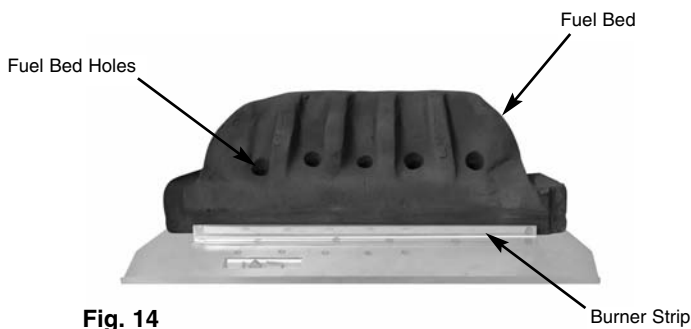

Fig. 14
1. Place the main fuel bed on to the back section of the metal burner tray. It is important that the front edge of the fuel bed is located behind the burner strip, and the holes in the fuel bed line up with the holes in the Burner tray (Fig. 14).